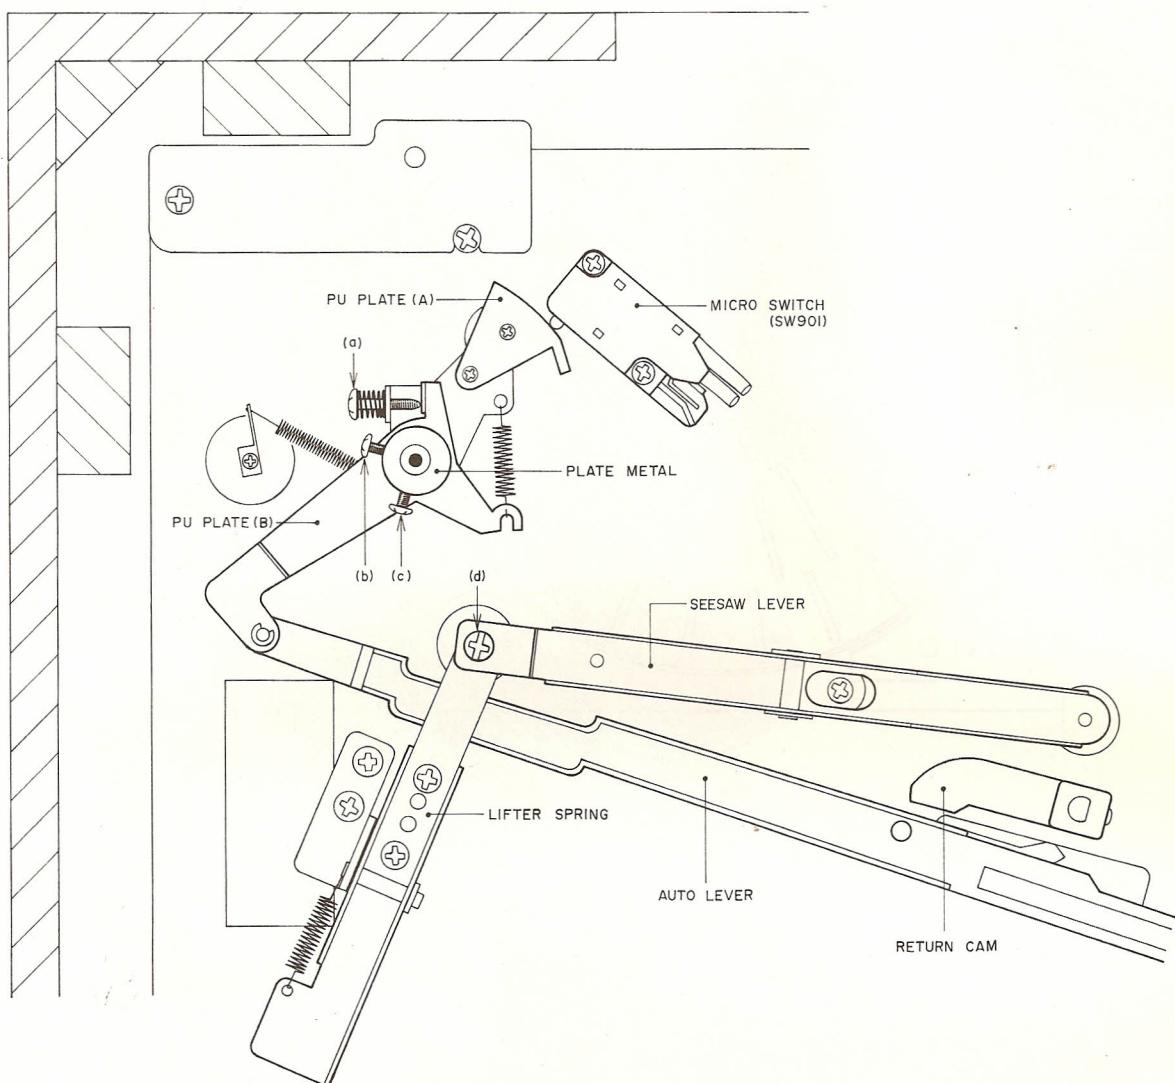
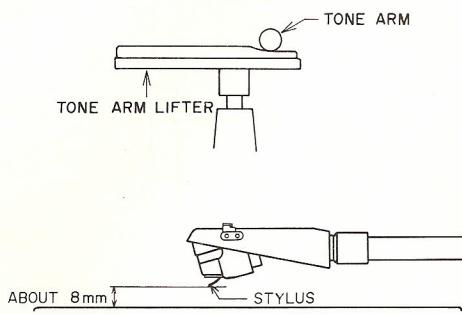
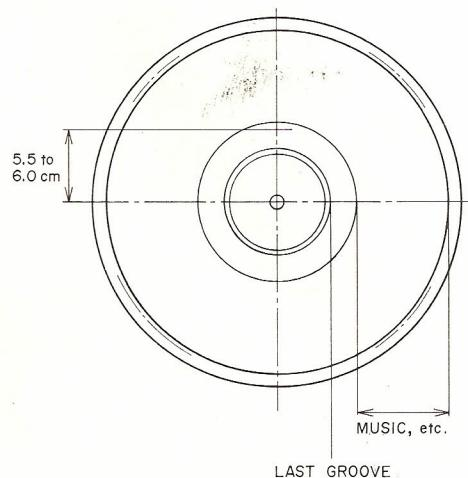

Fig. 12
Fig. 14
Fig. 15
4. PU PLATE ADJUSTMENT (Refer to Fig. 12)
(Refer to Fig. 12 and Fig. 14)
- 1) Adjust the screw (d) (see Fig. 12) until the tone arm fits to the tone arm lifter as shown in Fig. 14.
ADJUSTMENT (Refer to Fig. 12 and Fig. 15)
- 1) Adjust the screw (d) (see Fig. 12) until the tone arm returns automatically at a desired point.
NOTE: The automatic return range is around 5.5 to 6.0 cm from the center of a 30 cm disk (see Fig. 15). Turning the screw clockwise shifts the return point inward, and turning counter-clockwise shifts it outward.